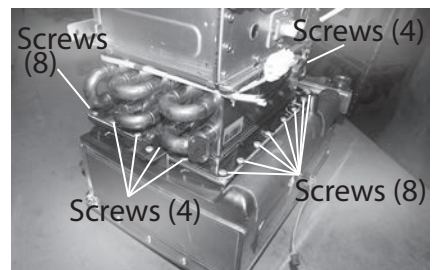

Figure 158 - Removing HEX assembly screws
- 50 Once brackets have been removed, locate the 24 screws securing the primary heat exchanger to the secondary heat exchanger. Remove screws and place aside in a safe place for reinstallation. See Figure 158.
- 69** Secure primary HEX to secondary HEX with the 24 screws previously removed in **Step 50**. See Figure 158 as reference.